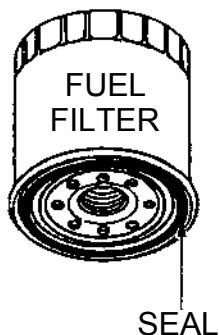

Figure 28. Fuel Filter
1. Set a container under the fuel filter cartridge (Figure 28) to catch spilled fuel.